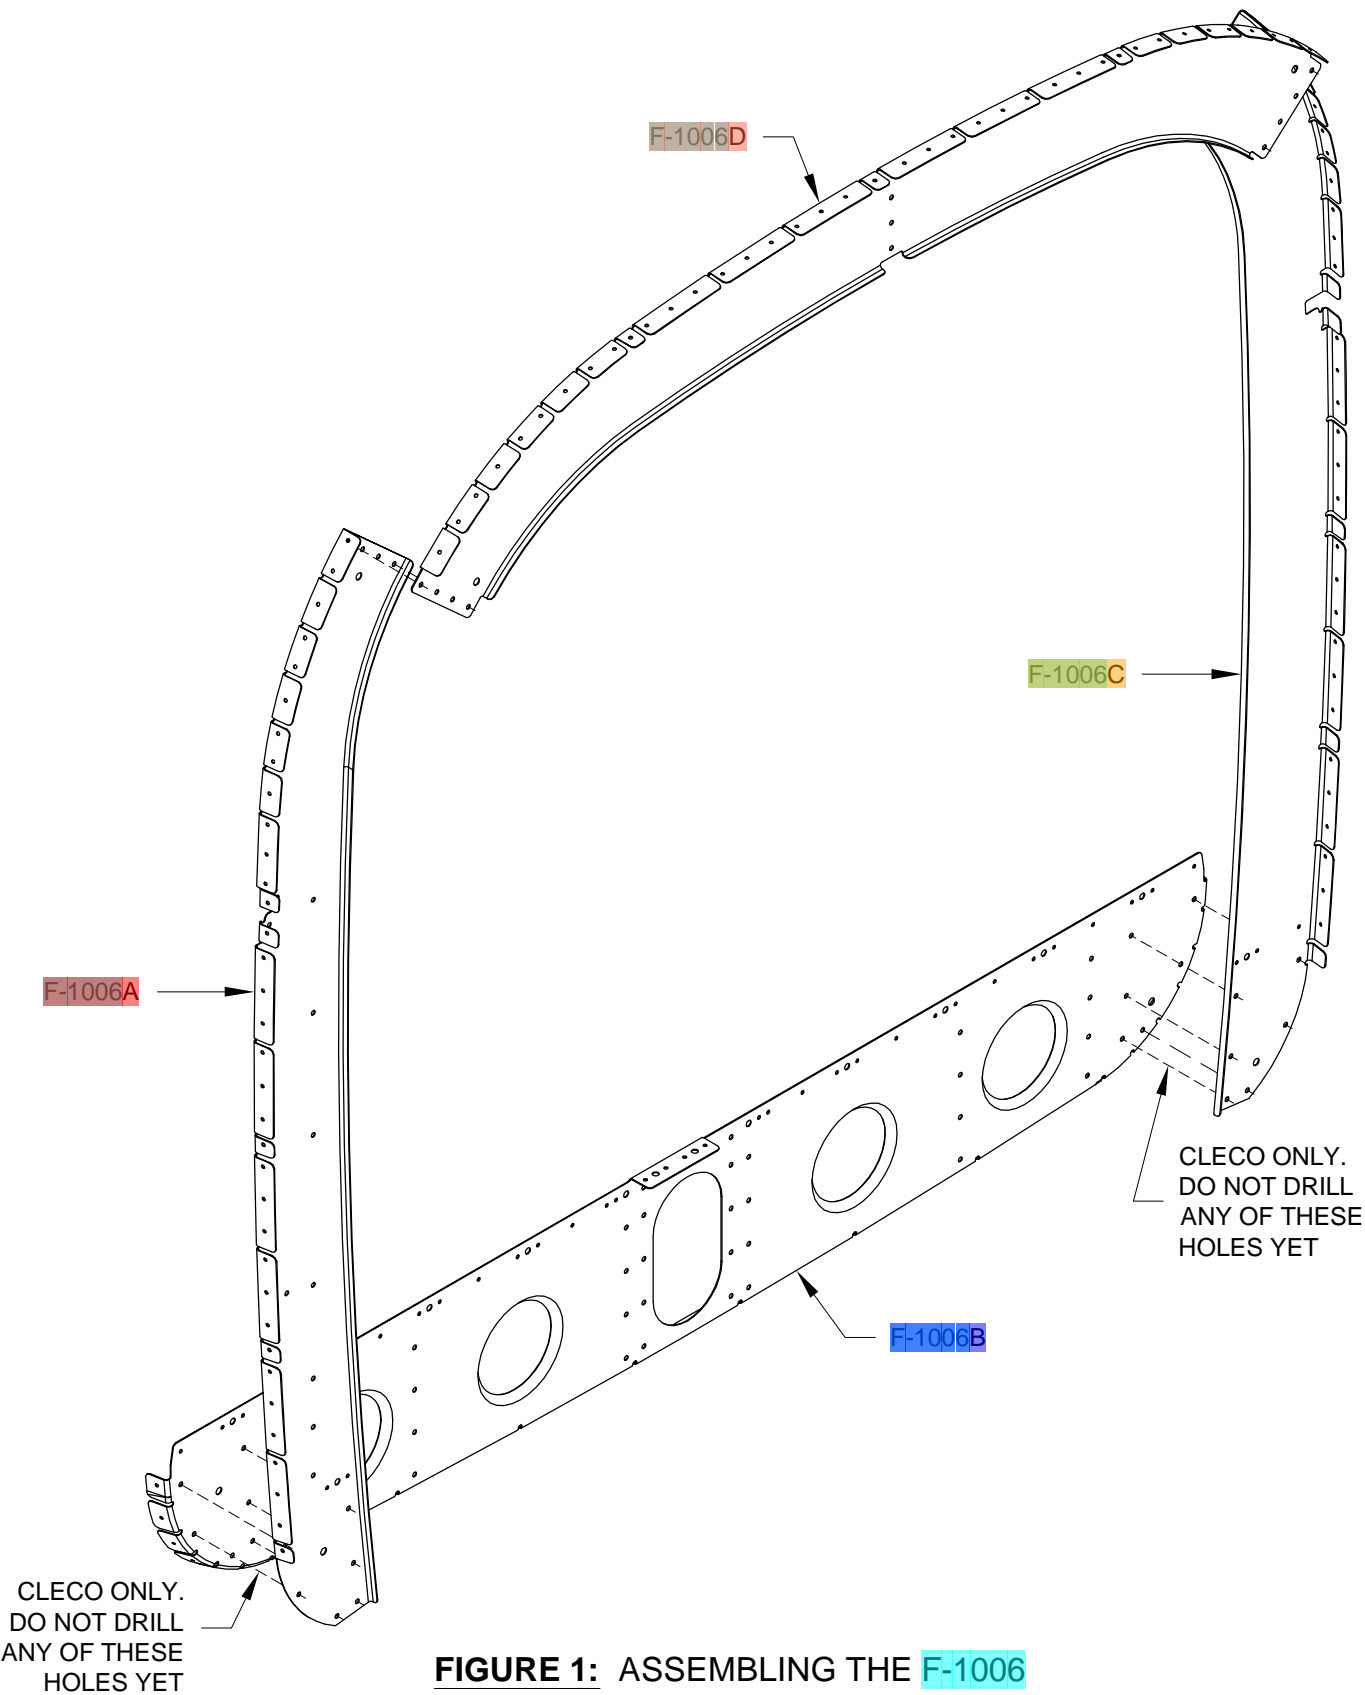

FIGURE 1: ASSEMBLING THE F-1006 BULKHEAD
Step 1: Deburr and, if necessary, flute the F-1006A, B, C, and D Bulkheads, then cleco them together as shown in Figure 1.